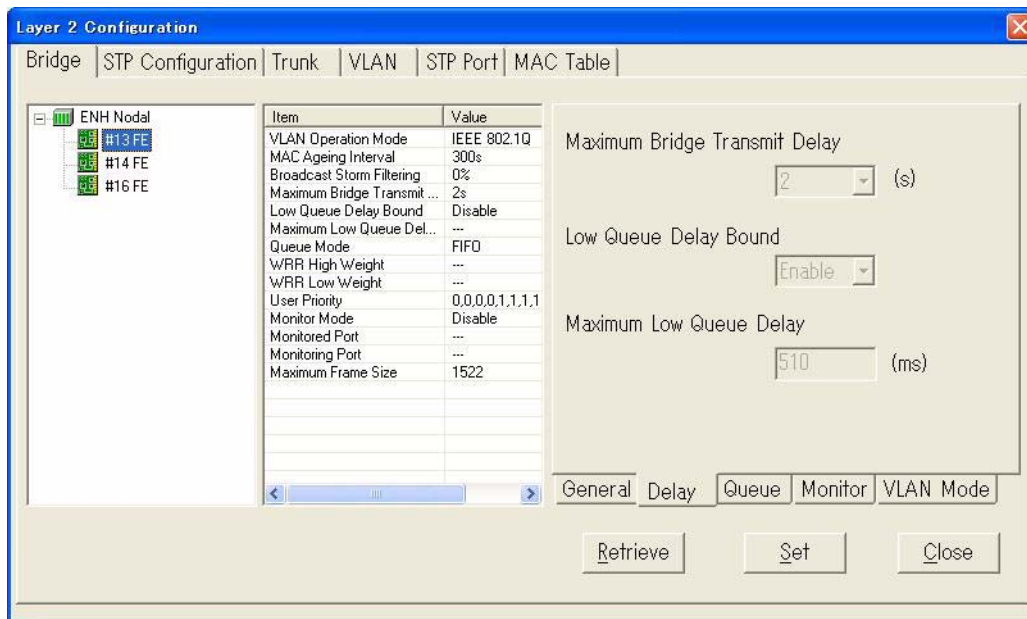

Fig. 4-4-44 Delay Setting
- 5 Select **Delay** in the bottom of the window. *Fig. 4-4-44* appears, you will find the value of **Maximum Bridge Transmit Delay**, **Low Queue Delay Bound** and **Maximum Low Queue Delay**. These parameters can't be changed. The default value of **Maximum Bridge Transmit Delay** is 2s, and the value of **Low Queue Delay Bound** is Enable, and the value of **Maximum Low Queue Delay** is 510ms (FE card only).